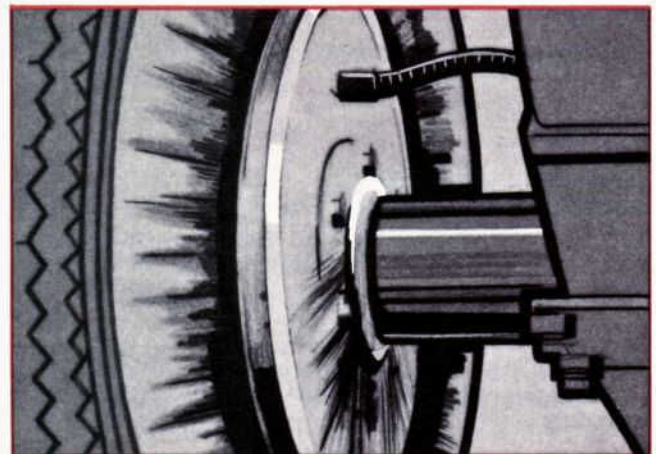

Figure 4—Oily looking Streaks on Inner Sidewall of Tire May Indicate a Leaking Wheel Cylinder.
- Leakage from the wheel cylinders (a clue that is easy to spot is radial lines of oily looking streaks on the inner sidewalls of the tires) as shown in figure 4.